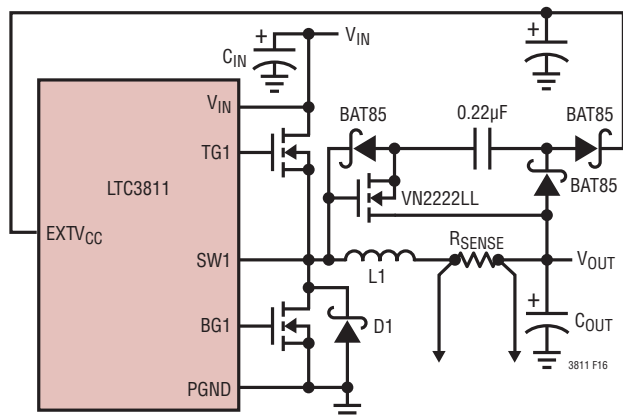

Figure 16. Capacitive Charge Pump for EXTV_{CC}
3. EXTV_{CC} connected to an output-derived boost network. For 3.3V and other low voltage regulators, efficiency gains can still be realized by connecting EXTV_{CC} to an output-derived voltage which has been boosted to greater than 4.5V but less than 7V. This can be done with a capacitive charge pump shown in Figure 16.
The optional Schottky diode, D1, shown in Figure 16 conducts during the dead-time between the conduction of the two power MOSFETs. This prevents the body diode of the bottom MOSFET from turning on, storing charge during the dead-time and requiring a reverse recovery period that could cost as much as 1% in efficiency at high V_{IN} . A 1A to 3A Schottky is generally a good compromise for both regions of operation due to the relatively small average current. Larger diodes result in additional transition losses due to their larger junction capacitance.